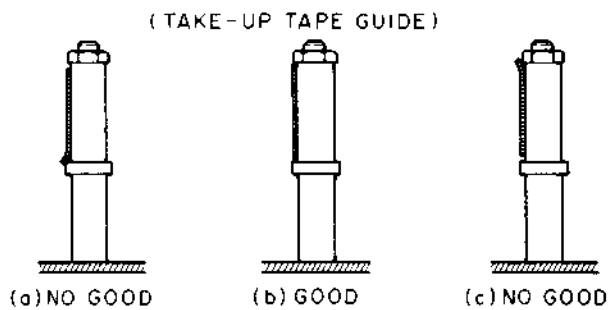

Fig. 5-4
- 4) Slightly turn the screw ② until the tape edge barely touches the lower part of the TAKE-UP TAPE GUIDE without any curl as shown in Fig. 5-4.